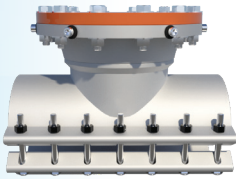

Figure 1
- 2) Inspect the line stop fitting to ensure no damage has occurred during shipment or storage (see Figure 1). Locate and remove completion plug and box containing stainless steel mounting hardware. Store in a clean, safe location.